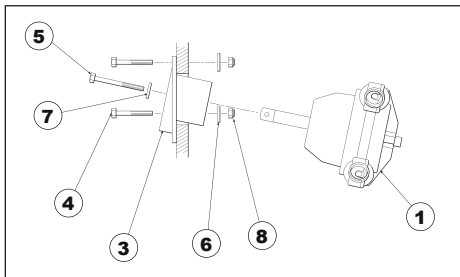

Figure 3.
Referring to figure 3, below: Secure the helm mounting plate (item 3) in position using three each of the 2-1/8" long hex bolts (item 4), large OD flat washers (item 6), and locknuts (item 8). Be sure the washers are on the inside of the dash as shown. Tighten securely.
Referring to figure 3, above for the most common applications: Insert shaft of helm (item 1) through hole in the mounting plate so that the helm's cable entry spigot is facing the direction of cable routing when viewed from the front of the dash. Attach the helm securely to the mounting plate using washers (item 7) and hex bolts (item 5) threaded into the helm.